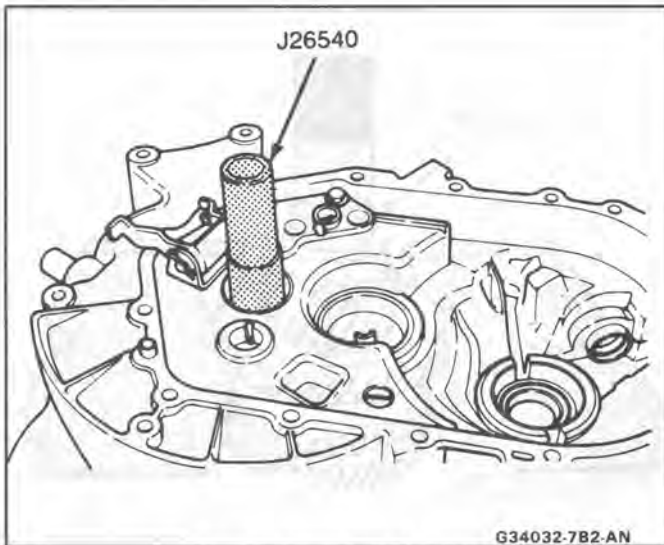

Fig. 33 Input Shaft Seal
1. Install a new input shaft seal using J 26540 (Fig. 33).